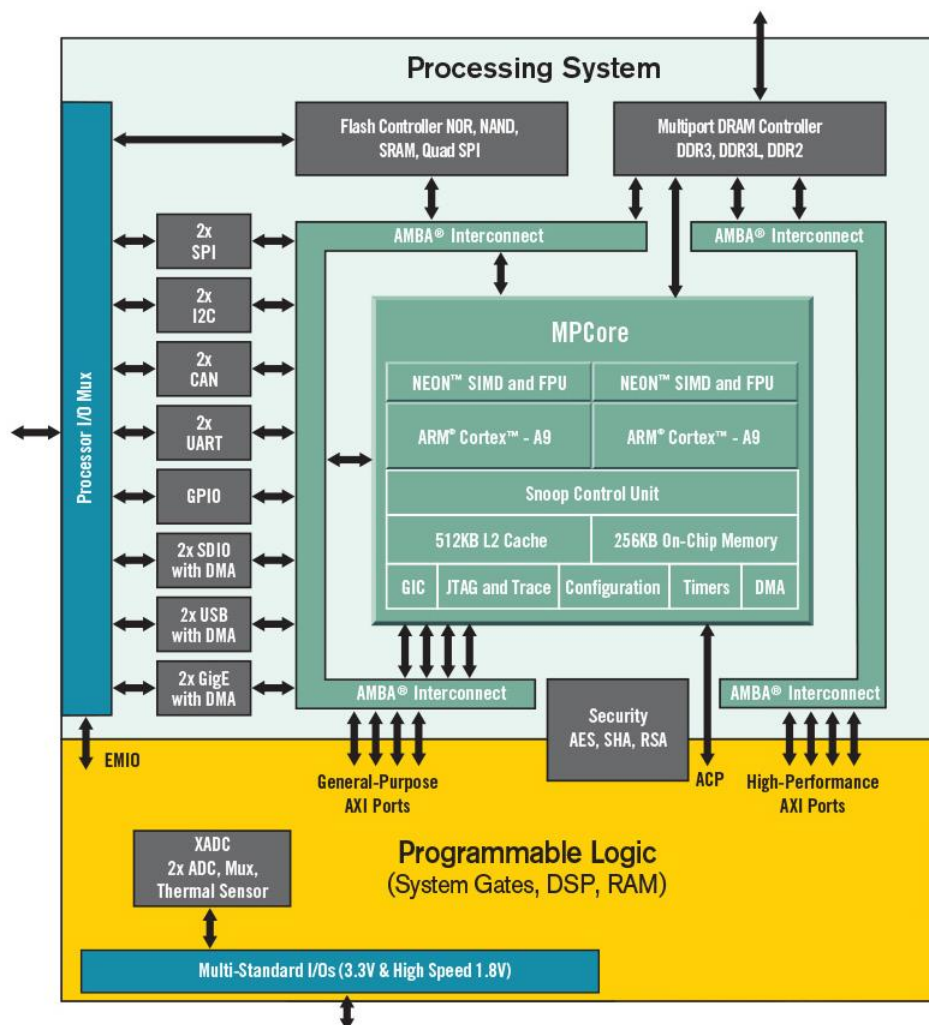

Figure 1
The Zynq 7000 ARM/FPGA SoC Platform is divided into two distinct subsystems: the Processing System (PS) and the Programmable Logic (PL). Figure 1 shows an overview of the Zynq architecture, with the PS colored light green and the PL in yellow (adapted from Xilinx).